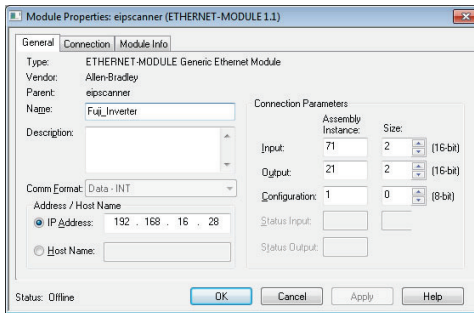

Figure 62: AC/DC Drive Profile Generic Ethernet Module Configuration
- 1) Complete all the steps in section 9.2.11. Please note that the Assembly Input Instance must be changed to 71 and the Assembly Output Instance must be changed to 21. Refer to Figure 62.